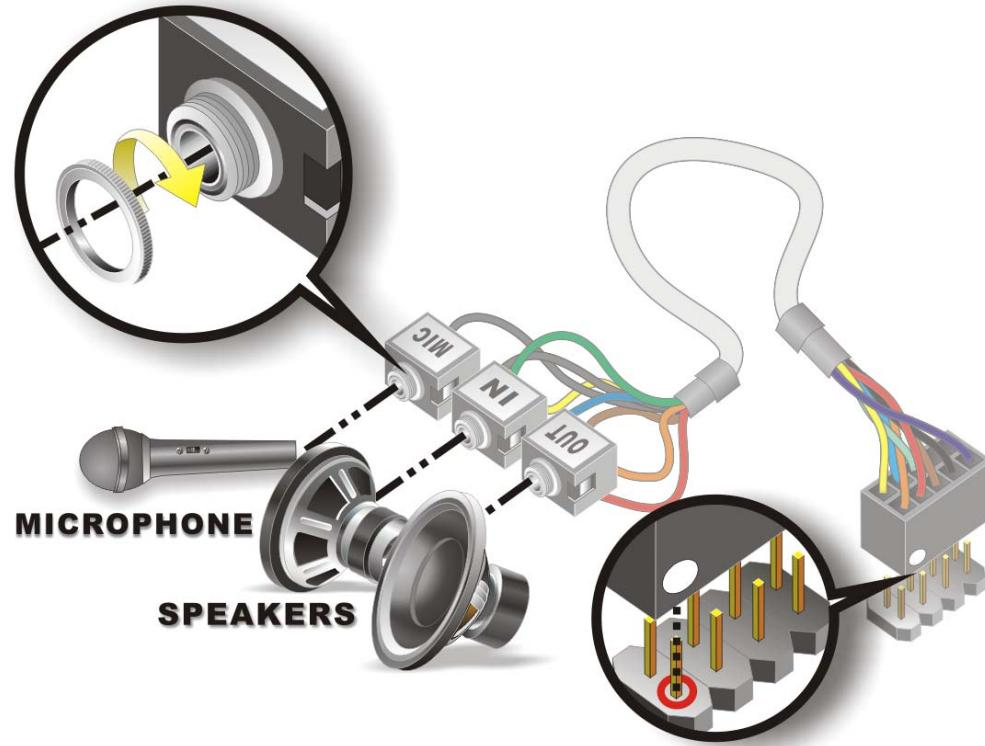

Figure 5-11: IDE Cable Connection
Step 2: Align pin 1. Align pin 1 on the onboard connector with pin 1 on the audio kit connector. Pin 1 on the audio kit connector is indicated with a white dot. See **Figure 5-11.**